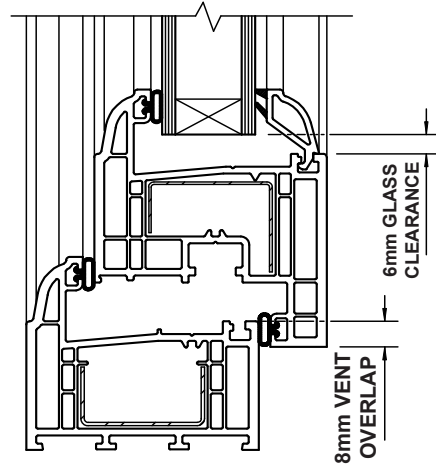

Fig. 5.1
- Glass clearance 6mm. (see fig. 5.1)
- Vent overlap 8mm (see fig. 5.1)